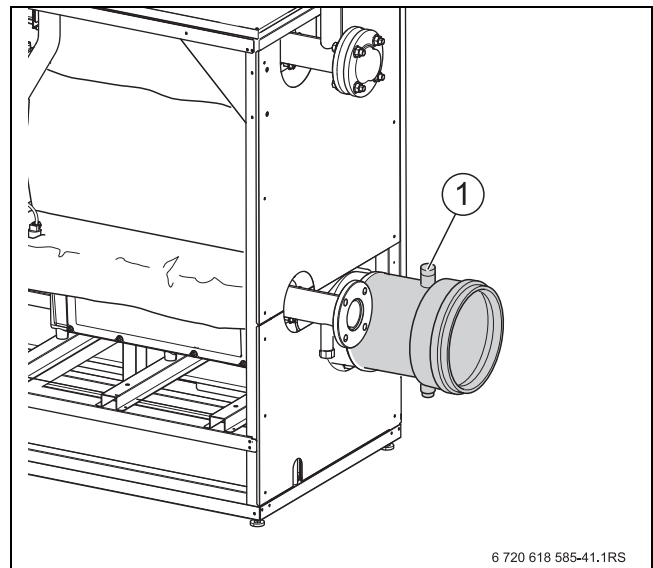

Fig. 36 Recording actual values
- Insert the test sensor through the test port (→ Fig. 36, page 26) in the flue into the core flow and check the CO₂ content.